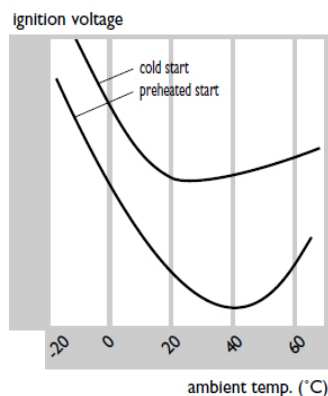

Fig. 23 Influence of ambient temperature on the required ignition voltage, both with cold and with preheated (warm) start.
2. **The warm start:** by preheating the lamp electrodes and – once they are at emission temperature – applying a peak voltage just high enough to initiate the discharge. The electrodes can be thinner and the applied starting voltage lower (see Fig. 23). The preheat time must be long enough. For the warm-start with an HF ballast a preheat time of approx. 1 second is needed with the correct current, whilst the open-circuit voltage of the lamps is low enough to prevent ignition at this stage. At the end of this time a higher open-circuit voltage will ignite the lamp reliably. Thanks to this procedure, the switching lifetime of the lamps is nearly independent of the switching cycle.